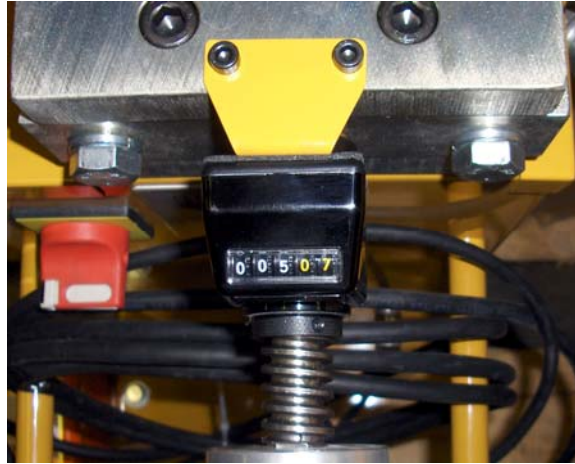
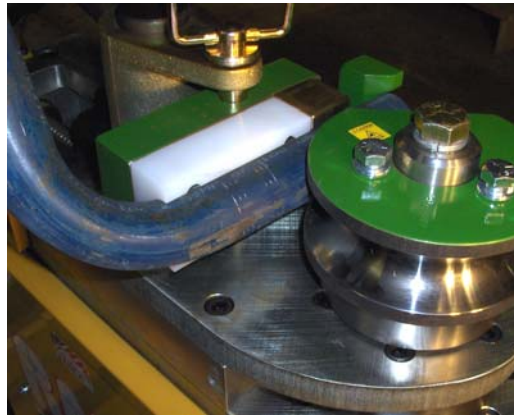
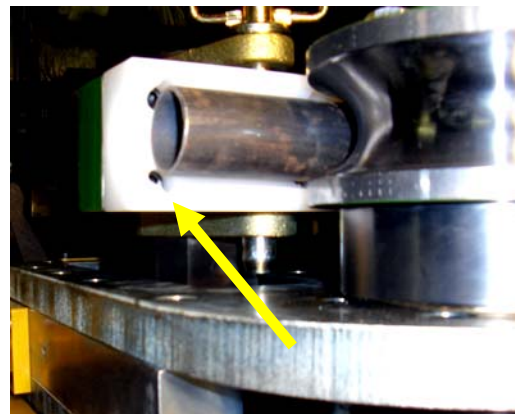

Figure 6 Leadscrew counter
Figure 7 Not enough material to complete the bend
Figure 9 Maximum amount material can be pulled through the counterdie
- i) The touch screen control is very self explanatory; by touching the labeled boxes will select that parameter. The exit box will return you to the previous screen and get you back to the **RMD MAIN SCREEN**. When entering names and degrees, a keypad will be displayed Fig 6
- (1) “**RUN, VIEW OR EDIT A PROGRAM**” Select this Feature if you want to do any of those functions.
- (b) To edit a program, choose the program you wish to edit by entering a number or by using the up down arrow keys Fig 7. After selecting the program touch the **VIEW/EDIT** button and the program parameters will be displayed Fig9 make changes as necessary, press the <F1> key to save any changes.
- (2) **DELETE PROGRAM**
- (a) Follow the above steps to get to the edit screen Fig 9 and press and hold the **CLEAR PROGRAM** button to erase all of the bend data for the selected program.
- (3) **RUN PROGRAM**
- (b) To edit a program, choose the program you wish to edit by entering a number or by using the up down arrow keys Fig 7. After selecting the program touch the **RUN** button and the program parameters will be displayed Fig 11
ii) Select a program number from 1 to 140 Fig7
v) Enter the bend **ANGLE** Fig 9
vi) Enter the **SPRING BACK** Fig 9
ii) To edit a program, choose the program you wish to edit by entering a number or by using the up down arrow keys Fig 7. After selecting the program touch the **RUN** button and the program parameters will be displayed Fig 11